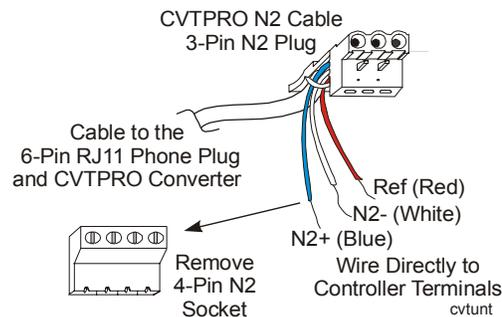
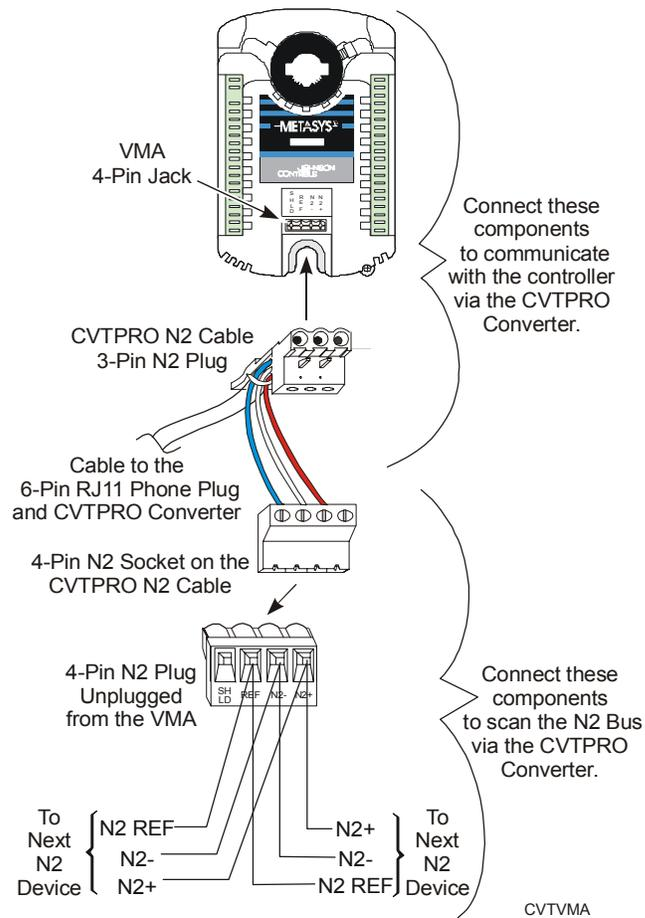

Figure 12: CVTPRO N2 Connection to Controllers with Screw Terminals
Figure 13: CVTPRO N2 Connection to a VMA with Removable N2 Plugs
Figure 11 is a diagram of the connections between the CVTPRO converter and other devices. Refer to Table 8 and Table 9 for more information on cables and Palm products. See Figure 12 and Figure 13 for more detail about N2 Bus connections.
To connect the CVTPRO to a controller with screw terminals (Figure 12):
2. Remove the 4-pin N2 socket from the CVTPRO N2 cable to expose the three wires (Figure 12 and Figure 13).
Note: Figure 13 shows the possible connections with a VMA (controller with a removable N2 plug).